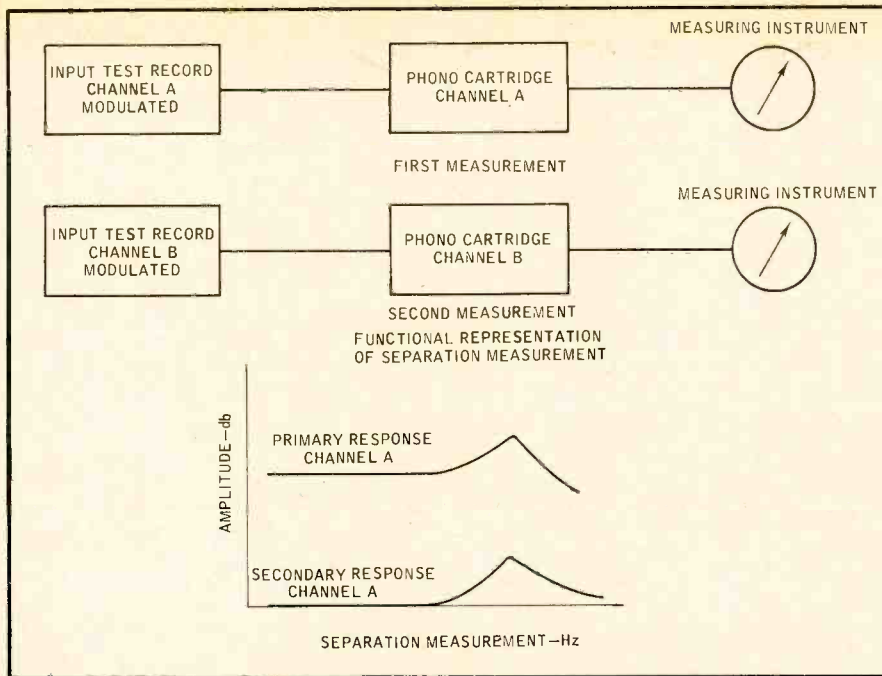

Fig. 4 Separation measurement: upper, functional representation; lower, measurements obtained by this method.
channel. This is shown functionally at (A) in Fig. 4. Two grooves are used, one with modulation in channel A, and no modulation in channel B, and the other the reverse. First, a measurement of channel A is recorded, and is indicated as primary response at (B) in Fig. 4. The second groove is then traced and the output of channel A is measured, and shown as secondary response at (B). The difference in response in decibels between the two curves is defined as separation.